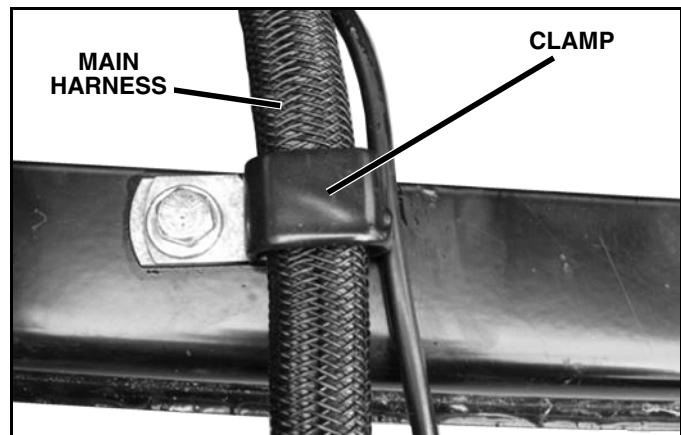
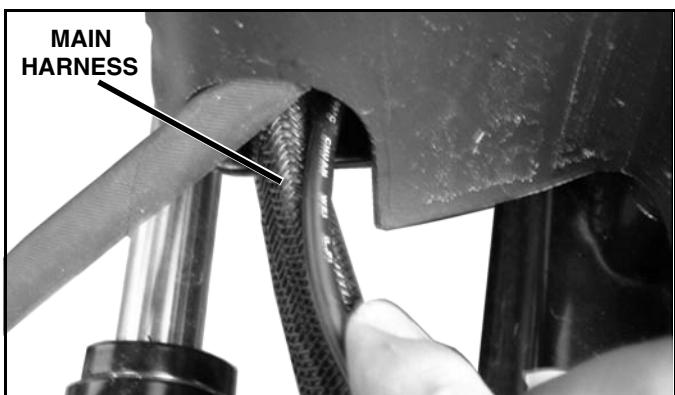

Figure 1-10
Figure 1-9
2. Run the 4 wire harness on the receiver unit over to the main power harness. Zip tie where necessary to the main power harness. Ensure the control wire harness is routed in the power harness clamp and continue running with the main power harness. Leave enough room to connect harness to vehicle harness. Ensure the cable is clear of pinch points and latching mechanism. Any excess cabling should be kept and zip tied under the pump cover (See Figure 1-9 & Figure 1-10).